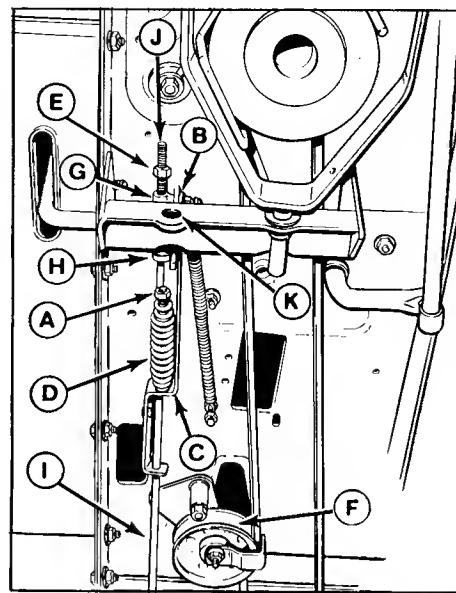

Figure 32. Brake-Clutch Adjustment
- Place the transmission in gear and release the parking brake. Move the brake rod (1, figure 32) back and forth to be sure there is no tension on the brake pads.
- Loosen the locking nut (C). Tighten the adjusting nut (D) to decrease gap or loosen nut to increase gap. Recheck the measurement. When correct, tighten locking nut against adjusting nut.
The clutch-brake pedal must be in up position. With one hand, push rod guide (C, figure 32) as far forward as slot (B) will allow while pulling rod (1) back with other hand. With rod guide in this position, tighten or loosen nut (A) until $1/4$ inch of clearance is obtained between nut and end of spring (D).
- With the pedal up, push the idler pulley (F, figure 32) firmly against the belt. With the pulley in this position, the gap between nut (E) and the rod guide (G) should be $7/8$ to 1 inch (22 to 25 mm). If not, tighten nut (E) to decrease gap or loosen nut to increase gap. Recheck measurement.
- Depress and lock the clutch-brake pedal. Loosen the setscrew in the set collar (H). Move the collar against the spring which is located between collar (H) and rod guide (G). Be sure spring is seated as far as possible over rod guide (G). Push the collar